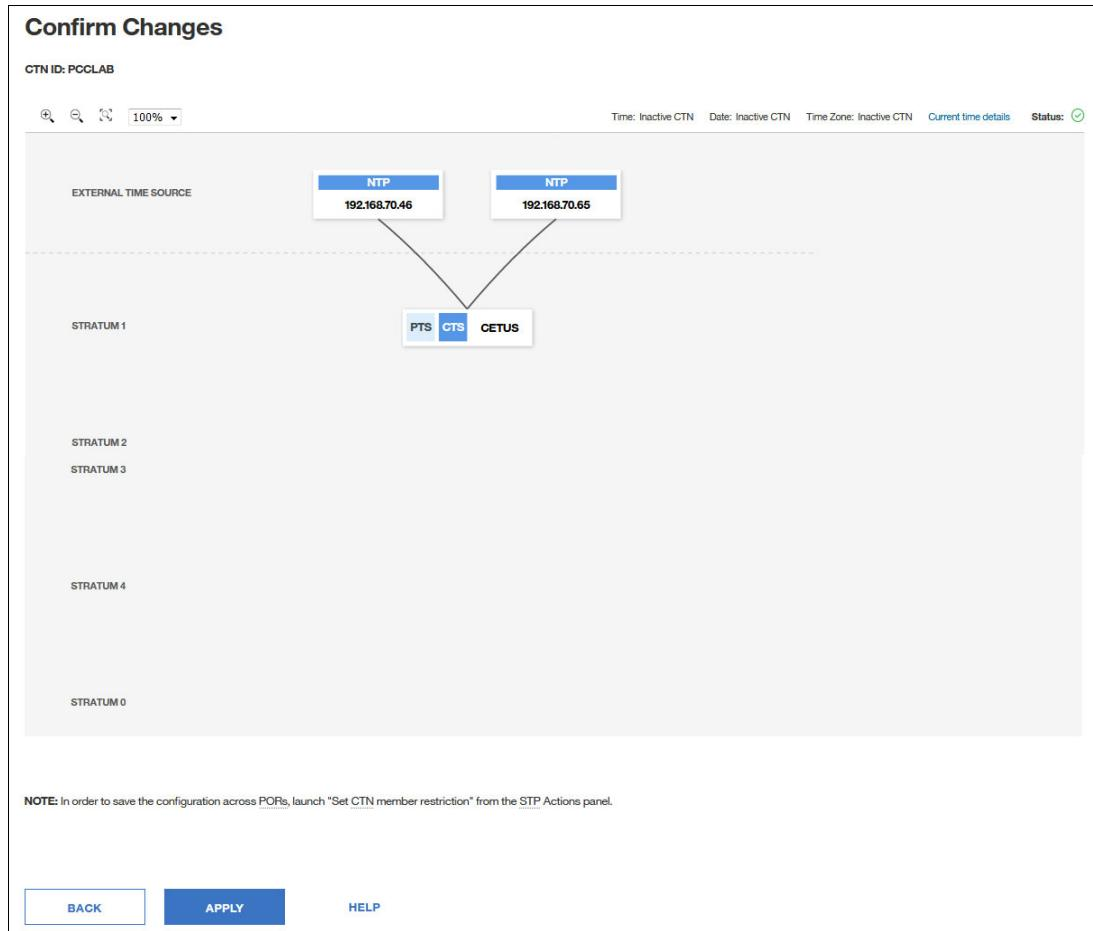

Figure 8-41 Confirm Changes window
10. The **CONFIRM CHANGES** window displays (Figure 8-41). The topology of CTN you defined is displayed graphically.